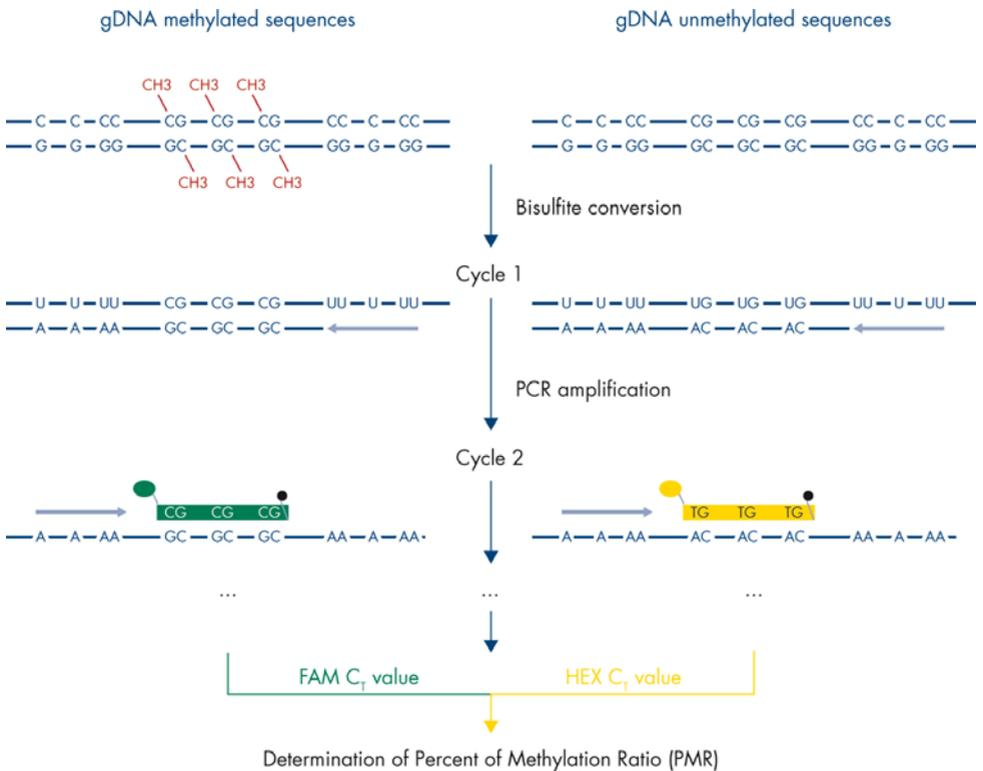
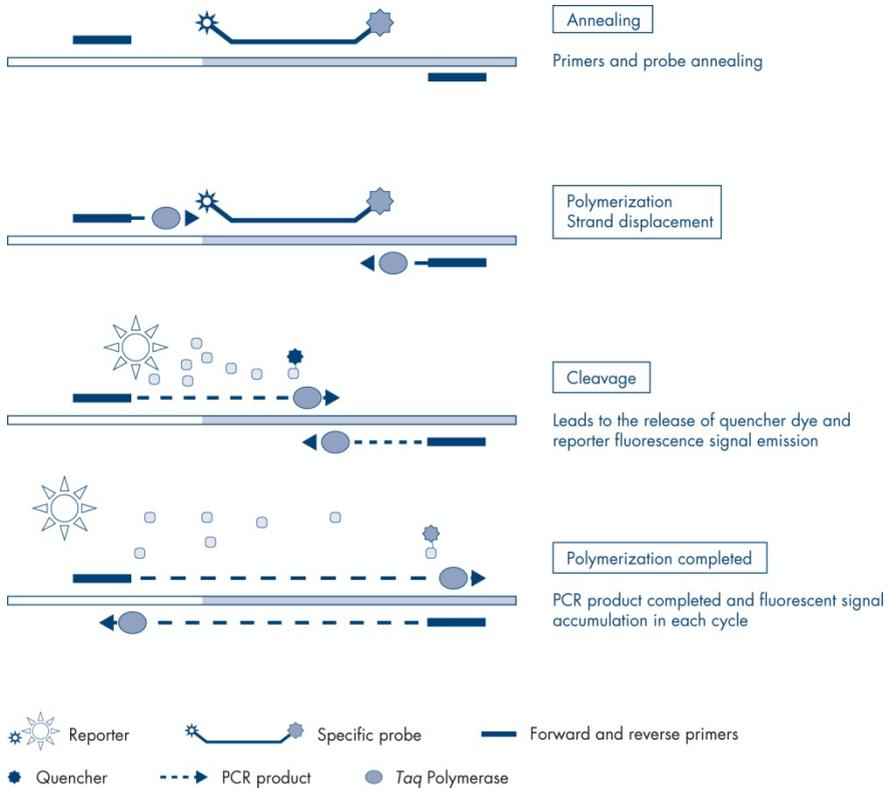

Figure 2. Principle of the *theascreen* PITX2 RGQ PCR Kit assay.
Figure 3. Principle of TaqMan real-time PCR assay.
The *therascreen* PITX2 RGQ PCR Kit assay exploits the qPCR oligonucleotide hydrolysis principle of the TaqMan® probes in combination with methylation-unspecific primers (Figure 2, next page). This assay uses one pair of primers amplifying all bisulfite-converted target sequences. Two different signals are obtained from this amplification by using two TaqMan probes labeled with different dyes. These probes, which consist of oligonucleotides labeled with a 5' reporter dye (FAM™ or HEX™) and a downstream 3' dye-free quencher, hybridize to the targeted sequences within the PCR product. One probe is specific for the bisDNA sequences from methylated sequences, dyed with FAM. The other is specific for the bisDNA sequences from unmethylated sequences, dyed with HEX. Analysis by TaqMan qPCR exploits the 5'→ 3' exonuclease activity of the *Thermus aquaticus* (*Taq*) DNA polymerase. When the probe is intact, the proximity of the reporter dye to the quencher results in suppression of the reporter fluorescence, primarily by Förster-type energy transfer. During PCR, if the target of interest is present, both forward and reverse primers specifically anneal and flank the annealed probe. The 3' end of the probe is blocked to prevent extension of the probe during PCR (Figure 3, page 10). During the polymerization phase, the 5'→ 3' exonuclease activity of the DNA polymerase cleaves the probe leading to the release of quencher and reporter fluorescence signal emission. The probe fragments are then displaced from the target and polymerization of the strand continues. This process occurs in every cycle and does not interfere with the exponential accumulation of product (Figure 3, page 10). The increase in fluorescence signal is detected only if the target sequence is complementary to the primers and probe and hence amplified during PCR. The PCR cycle at which the fluorescence from a particular reaction crosses the predefined threshold values (given by the *therascreen* PITX2 Assay Package) is defined as the C_T value.
The outcomes of the *therascreen* PITX2 RGQ PCR Kit assay are two C_T values, one for FAM and one for HEX. From the ΔC_T value between both signals, a PMR is calculated (Figure 2, next page). The PMR calculation is based on the following formula (11):